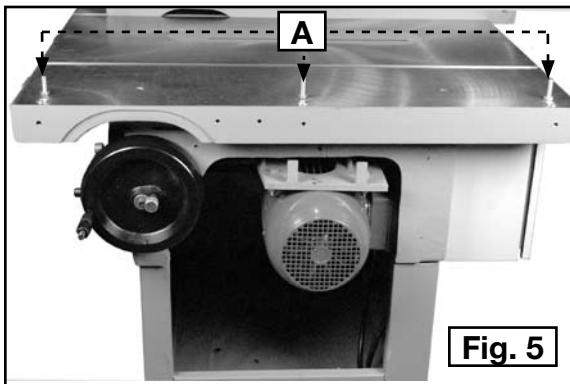

Fig. 5
Attach the extension wing to the saw with three M10 x 35mm hex-head bolts (A) Fig. 5.